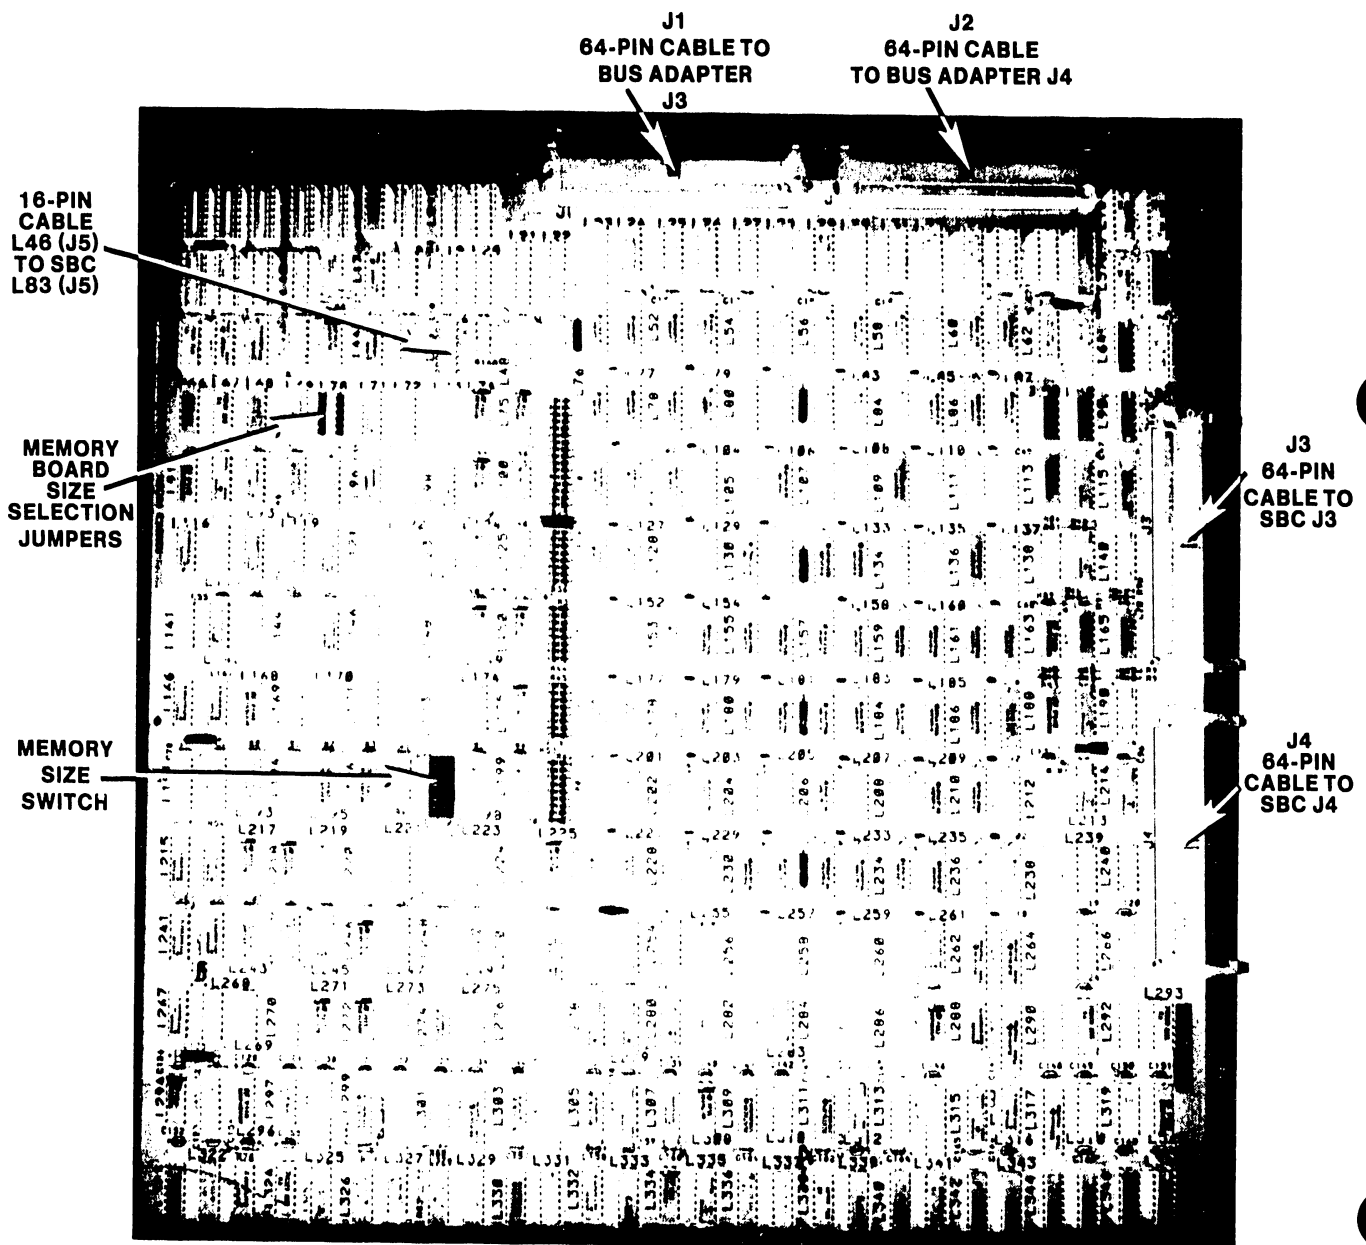

Figure 5-11. 210-8804 Cache Memory Board
1. If the system has a Cache Memory board (figure 5-11) in Motherboard slot #4, disconnect the 64-pin connectors from J1 and J2 on the top of the board, and from J3 and J4 on the front of the board.